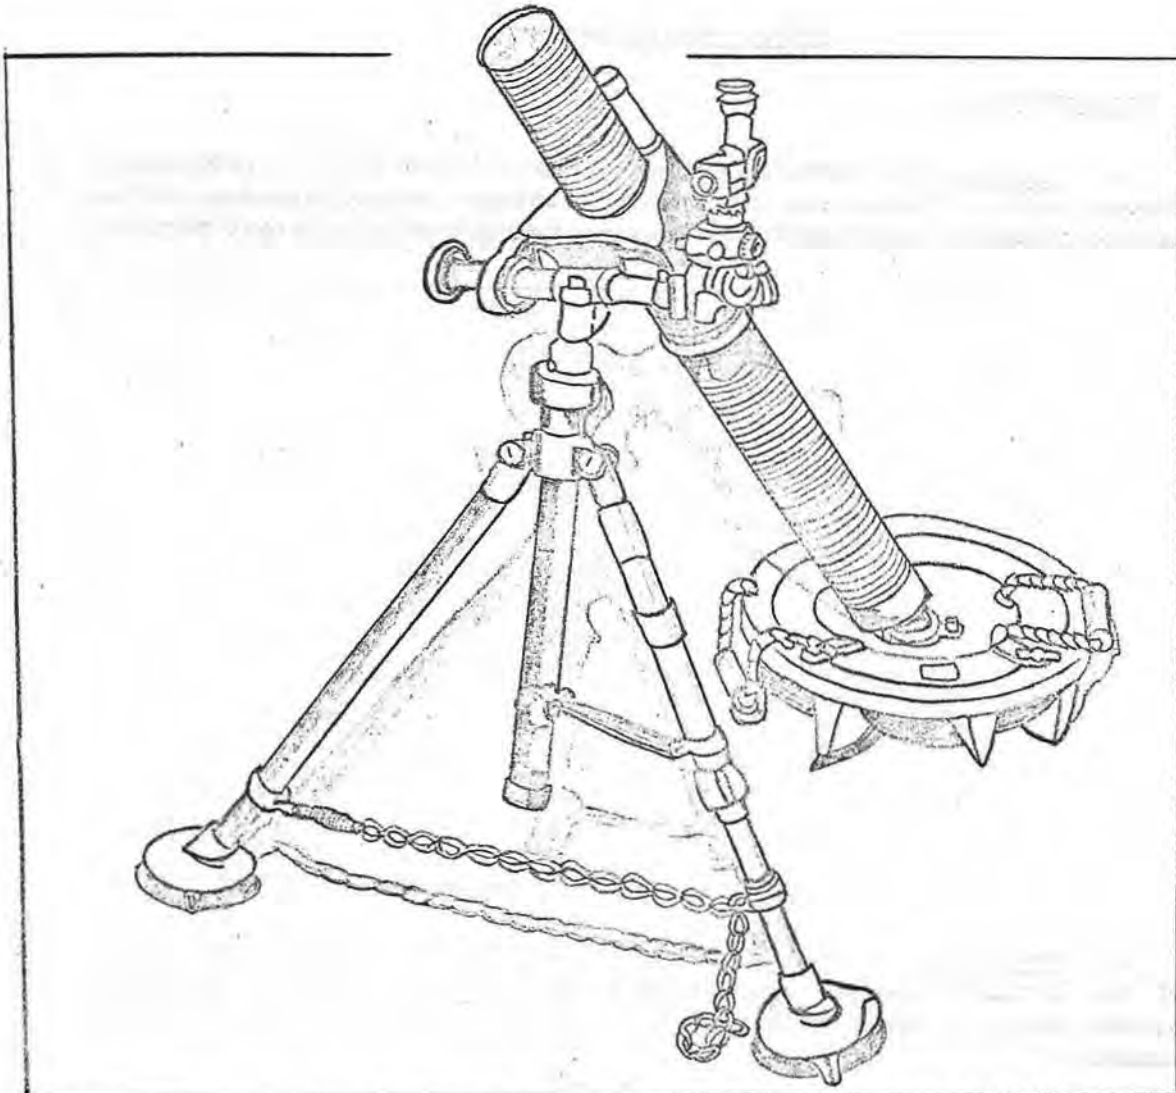

FIG 15. 81MM Mortar M-29, bipod M23A1, Base Plate, M-23.
1. **DESCRIPTION:** The 81MM Mortar is a smooth-bore, muzzle loading, high angle of fire weapon capable of a high degree of accuracy at ranges up to approximately 4800 meters. The mortar weighs 115 pounds complete with an over all length of 51 inches. The rate of fire is 12 rounds per minute per the first two minutes and 3 rounds per minute sustained fire thereafter. The mortar breaks down into three separate parts; the barrel, the bipod, and the base plate (See figure 15).